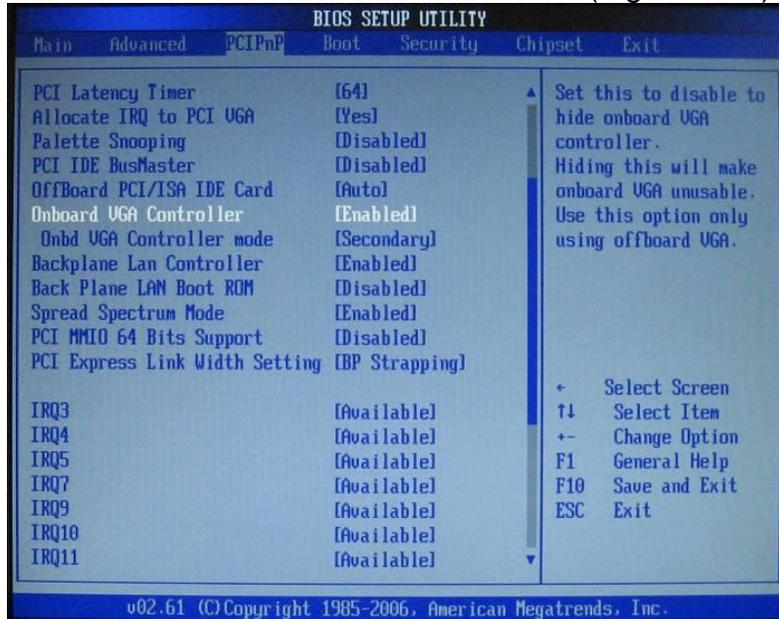

Figure 8-42 Onboard VGA Controller Screen
32. On the **Onboard VGA Controller** screen. Select **Onboard VGA Controller**. Then Press **Enter**. (Figure 8-42).